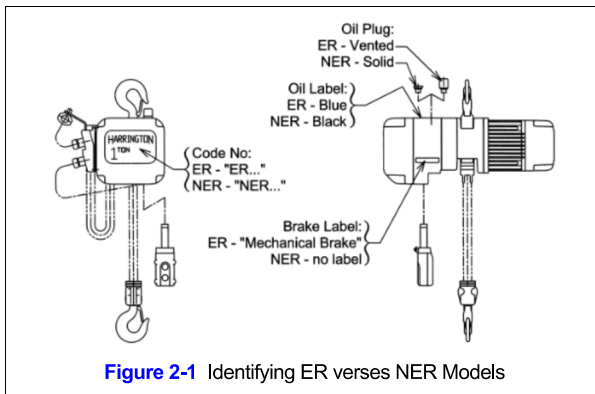

Figure 2-1 Identifying ER versus NER Models
2.1.2 ER and NER Models - Harrington ER series hoist are available in two versions, the ER and NER. These two versions are equipped with different options as standard equipment. The NER has a friction clutch mechanism that provides over winding protection. The ER has a mechanical load brake/friction clutch combination and an electronic count/hour meter in the control circuit. Refer to Figure 2-1 for the visual differences between the ER and NER.